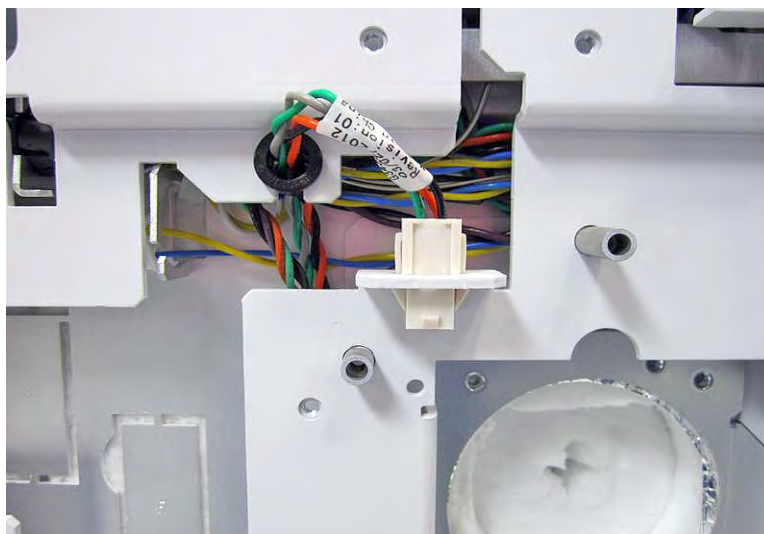

Figure 16 Install the third detector heater cable into the frame
- 7 Install the third detector heated zone cable with grommet into the box assembly frame as shown in Figure 16. Install the connector into its slot in the frame.